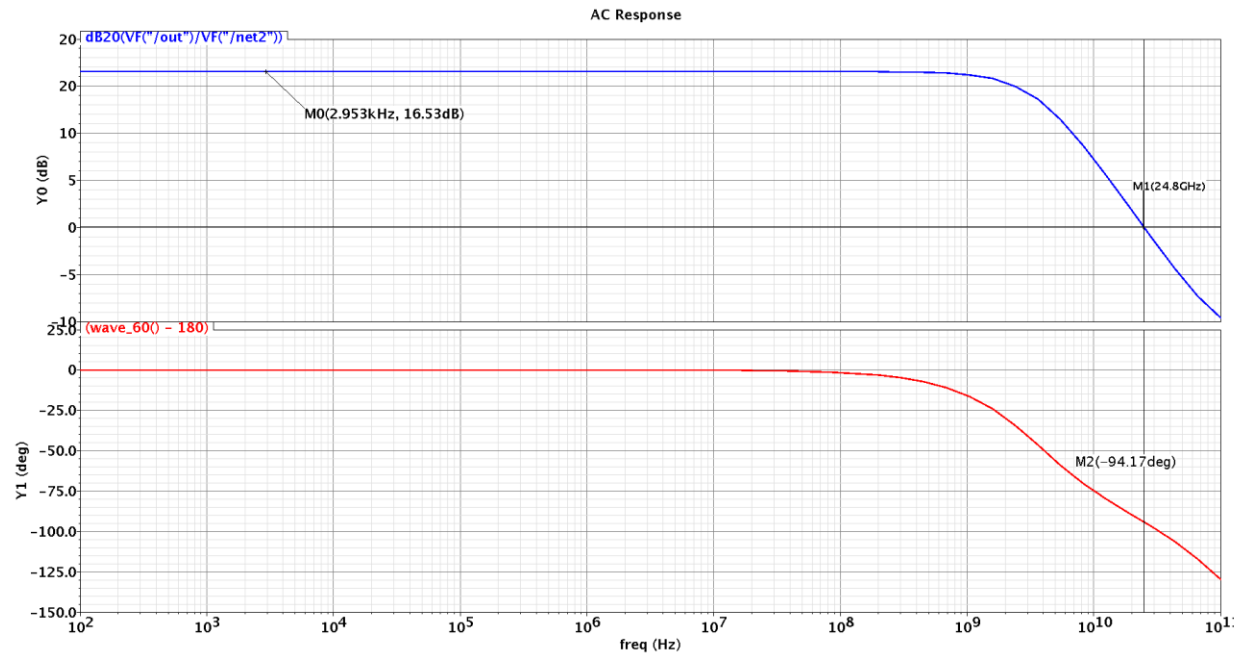

Fig.1.3 Frequency response of CS with resistive load
- Fig.1.3 shows the frequency response of CS amplifier in which it clear from the plot that gain is 16.53dB ≈ 6.7 . We have calculated it as 10 but we could achieve it 6.7.
- 1 **dB compression point it at 11 GHz frequency**, see from figure 1.3.